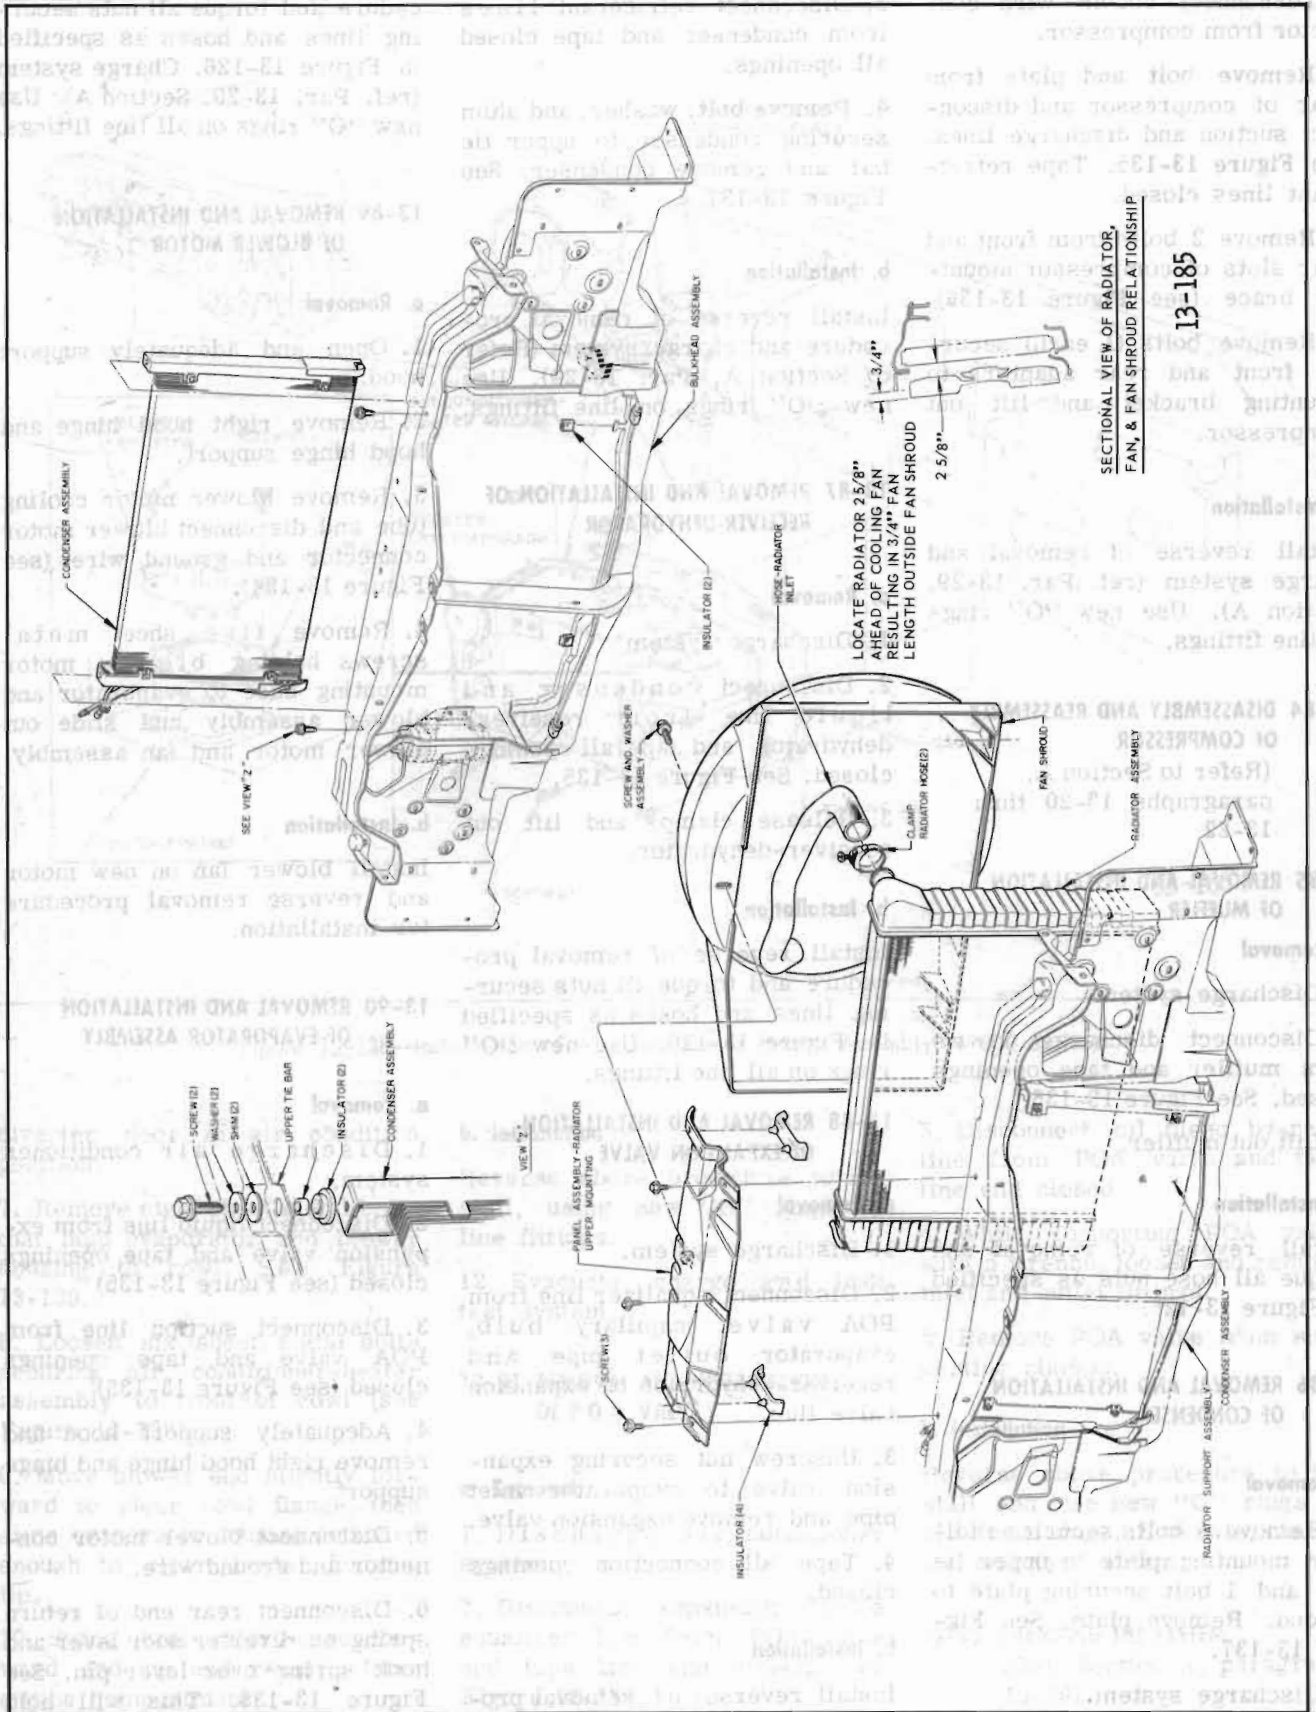

Figure 13-137—Condenser and Radiator Installation (49000 Series)
1. Remove 3 bolts securing radiator mounting plate to upper tie bar and 1 bolt securing plate to shroud. Remove plate. See Figure 13-137.
4. Remove bolt, washer, and shim securing condenser to upper tie bar and remove condenser. See Figure 13-137.